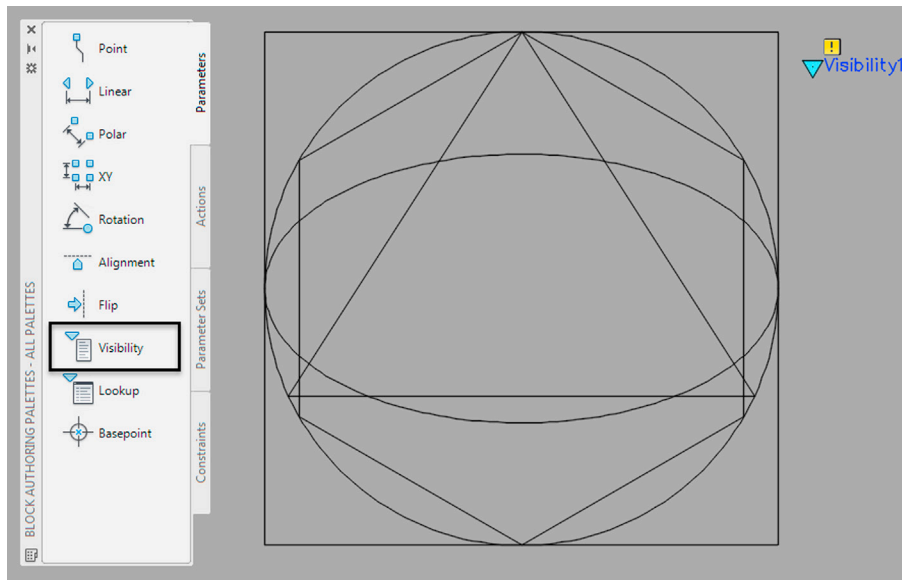

FIGURE 7.21 Visibility parameter added.
Step 3. Now add the visibility parameter (highlighted with a black rectangle in Fig. 7.21) by clicking on the Parameters tab. AutoCAD asks where to locate it. Select any convenient spot next to the shapes, as seen in Fig. 7.21.